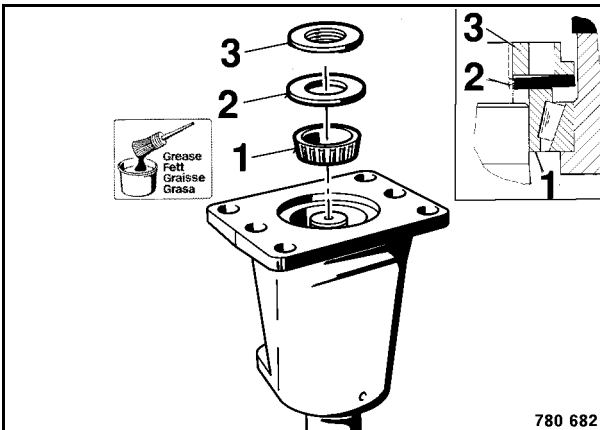

Fig. 5
7. Grease the new taper roller bearing 1 (Fig. 5) with lithium saponified high pressure grease and install.
8. Insert the Belleville spring (2) with arched area pointing inward.
9. Install the new tensioning nut (3) with the large outer diameter pointing inward.